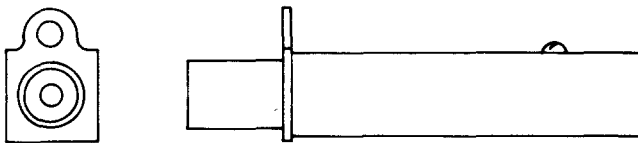

Fig. 16—472B Jack
2.16 472B: This single-mounted jack (Fig. 16) has coaxially arranged inner and outer contacts which are mounted in a tubular metal frame which serves as a shield. This jack is tested with 2000 volts ac. The 472B jack is to be used with a 337B plug and KS-13679 coaxial cable. This jack is to be used in the J64061A signal generator and the J64070A power meter in toll systems. This jack replaces the 472A jack.